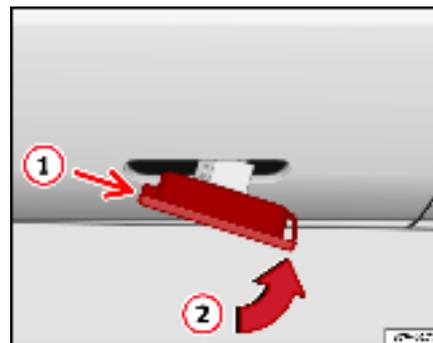

Fig. 163 Side indicator
- First fit the turn signal in the opening of the chassis, securing with the tabs ① ⇒ fig. 163 and then, fit the bulb as shown by the arrow ②. ■